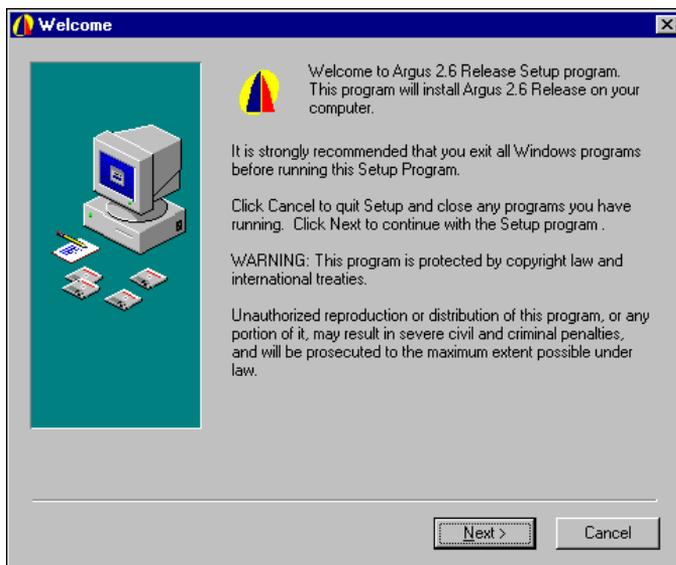

Figure 1-3. Installation Welcome Screen
1. Read the "Welcome" screen (Figure 1-3), then click Next.